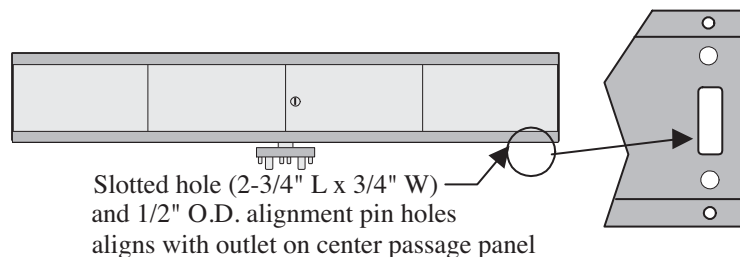

Figure 16a Header/Mechanism Identification
- Look at the underside of the Header/Mechanism and find the end with a slotted hole in the sheet metal as shown in **Figure 16a**. This end sits on top of the Center Passage Panel.